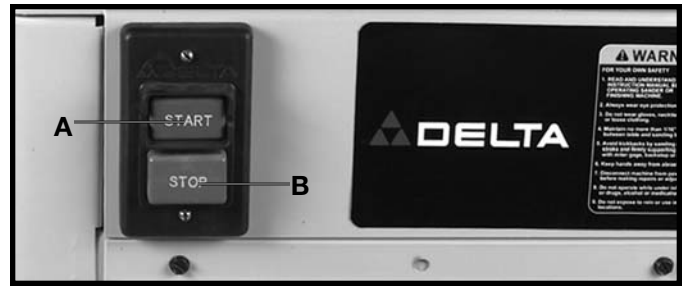

Fig. 10
To start the machine, push “ON” button (A) Fig. 10. To stop the machine, push “OFF” button (B).